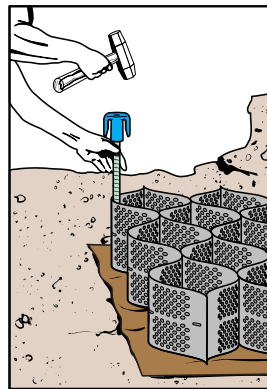

Figure 3 Driving the ATRA Anchor with a Hammer
- 4) Allows Use of a Pneumatic ATRA® Driver:** The ATRA Driver can drive anchors in a fraction of the time of hand hammering, reducing worker fatigue, stress and injury. This is especially beneficial when driving a large quantity of anchors. Options for driving the ATRA Anchors are either by hand (hammer) or with electric driving tools as illustrated in Figures 3 and 4.